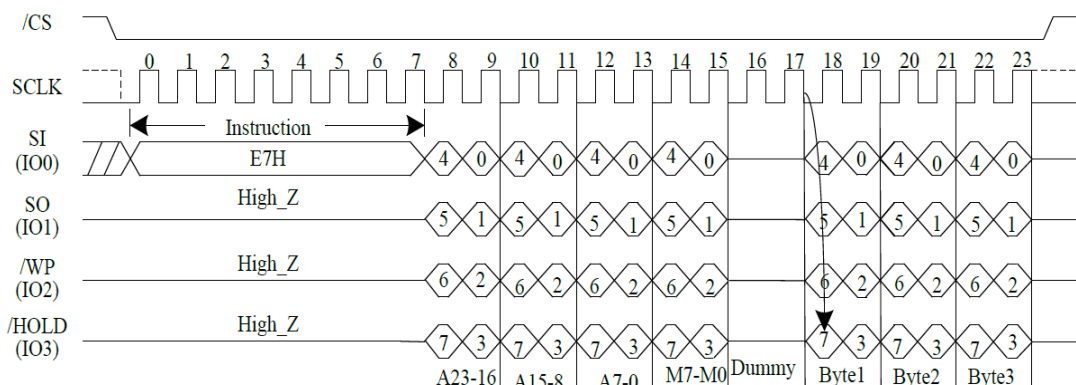

Figure15. Quad I/O Word Fast Read Sequence Diagram (Initial command or previous (M5-4) ≠ (1,0))
The Quad I/O Word Fast Read instruction is similar to the Quad Fast Read instruction except that the lowest address bit (A0) must eQuad 0 and 2-dummy clock. The instruction sequence is shown in the followed Figure15, the first byte addressed can be at any location. The address is automatically incremented to the next higher address after each byte of data is shifted out. The Quad Enable bit (QE) of Status Register (S9) must be set to enable for the Quad I/O Word Fast Read instruction.